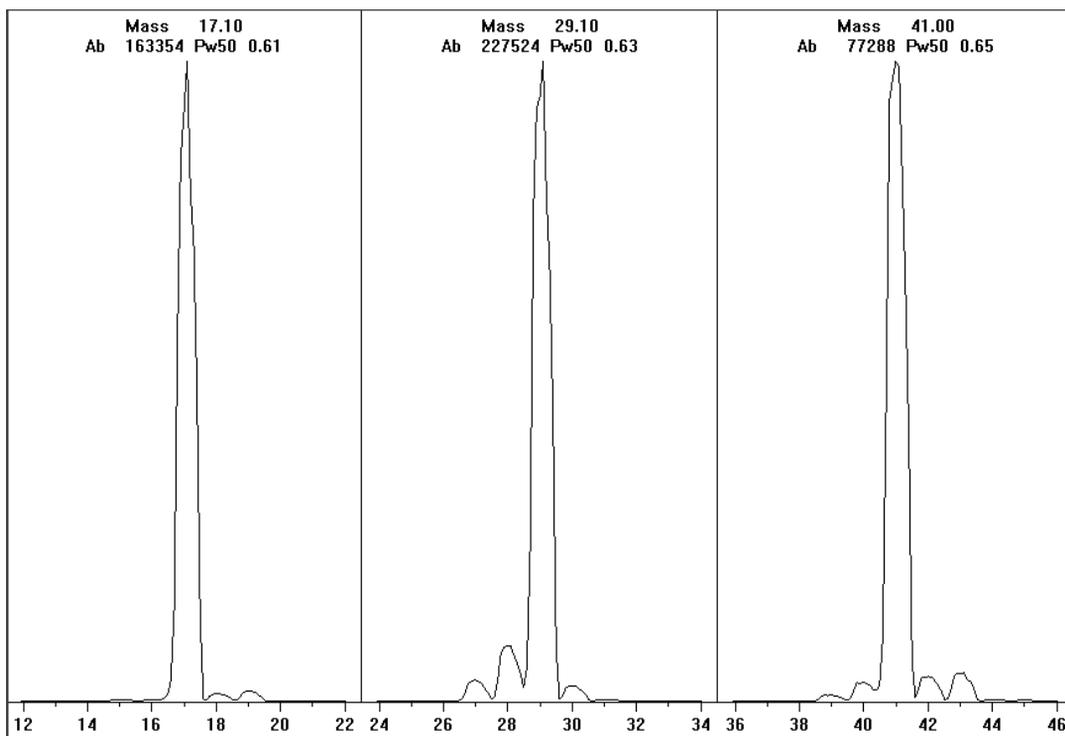

Figure 45. Reagent ion scans after a very long bake out
- 8 Examine the displayed profile scan of the reagent ions. (See Figure 45.)